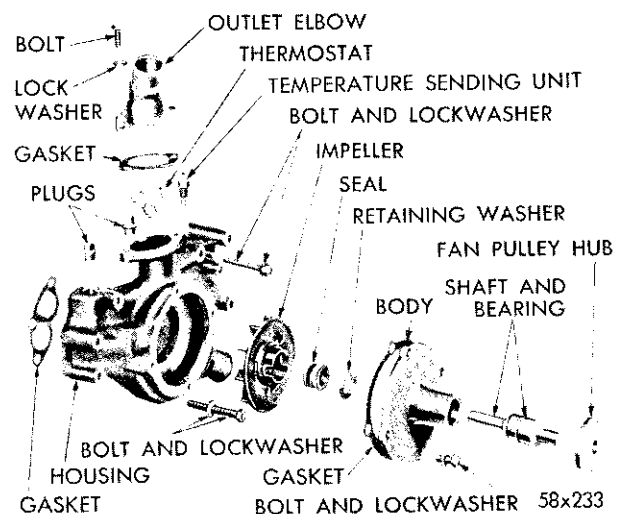
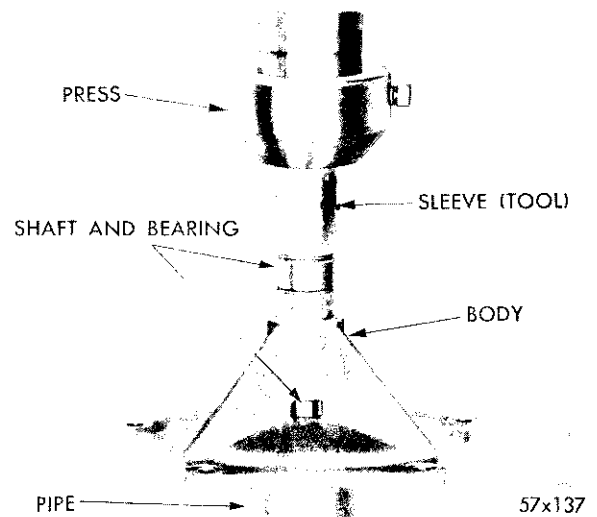

Fig. 3—Water Pump Assembly (Exploded View)
Fig. 5—Installing Shaft and Bearing Assembly using Tool C-3468
a. Removal from Vehicle (Fig. 3)
- (1) Drain the cooling system. (Remove upper half of fan shroud on Air Conditioning models only.)
- (2) Loosen the power steering pump, idler pulley and generator and remove all belts.
- (3) Remove fan, spacer and pulley. On Air Conditioning models, remove the pulley from water pump fan hub, loosen all nuts from fan to remove the fan drive.
- (4) Remove bolts holding water pump body to housing and remove water pump.
b. Disassembly (Fig. 3)
- (6) Clean parts thoroughly. Inspect condition of seal seat and recondition using refacing Tool C-551.
c. Assembly (Fig. 3)
- (1) Support pump body as close to center bore as possible in an arbor press. **DO NOT SUPPORT BODY ON ATTACHING FACE, OR ON SEAL SEAT.**
- (2) Press shaft and bearing assembly into body, using Tool C-3468, as shown in Figure 5.
NOTE: The .090 inch dimension must be maintained when installing new shaft and bearing assembly, as shown in Figure 5. The undercut on the tool does not control the .090 inch dimension.